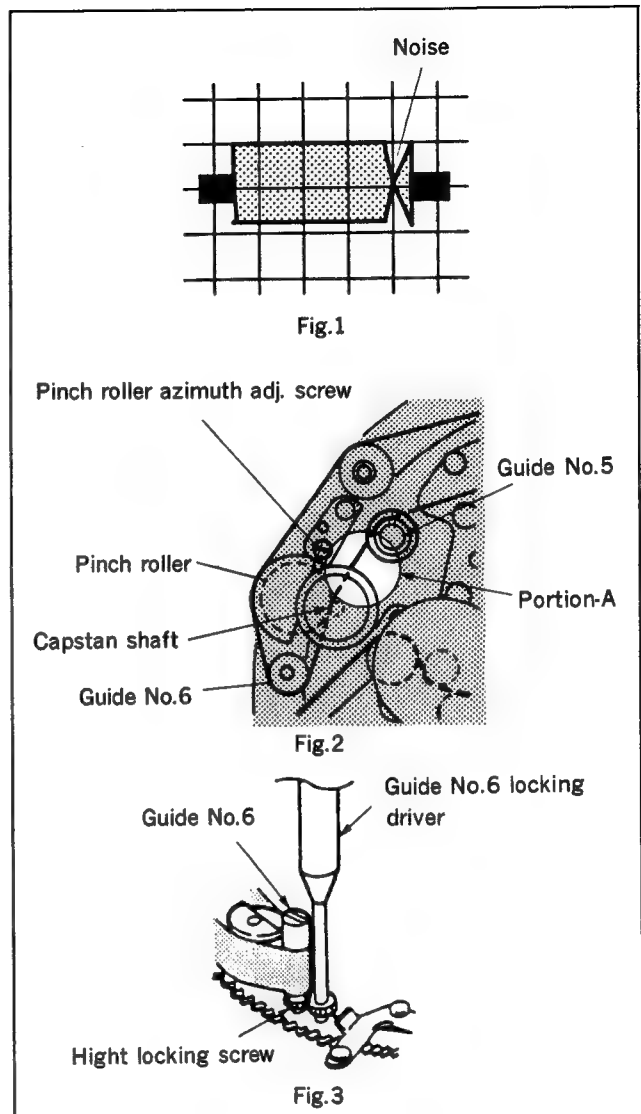

Fig. 6-6-1 Checking just put into playback mode
- 2 (1) If RF wave shape does not make flat instantaneous-ly while maintaining horizontally flat envelope, go to the adjustment below. (Fig.6-6-1.)
If noise is seen at exit side (bottom of screen) when the unit put into the playback mode from threading-completed condition. (Fig.6-6-1 (1))
- (2) Check that FWD hold-back tension is not too low.
(Fig.6-6-1 (2))
(Fig.6-6-1 (1))
- (3) Loosen by rotating the height locking screw in counterclockwise direction, using Guide No.6 locking driver. (Fig.6-6-1 (3))
- (4) Adjust height of Guide No.6 by rotating it.
Note: If Guide No.6 is raised too high, tape wrinkle occurs between capstan and Guide No.5. (Fig. 6-6-1 (2) portion-A) Check there is not tape wrinkle.
- (5) Check that FWD hold-back tension is not too low.
Rotate the pinch roller azimuth adjusting screw about 5 degrees in clockwise. Check the RF wave shape. Adjust it by incrementing the 5 degree clockwise rotation and check at each rotation. (Fig.6-6-1 (2))